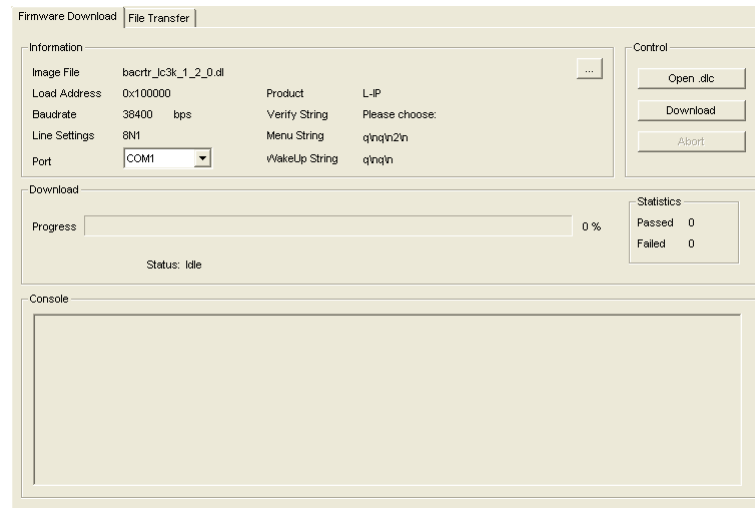

Figure 22: LSU Serial Upgrade Tool in Idle Mode
1. Double click on the *.dlc file that comes with the new firmware package. This should start the LSU Tool and load the firmware image referenced in the dlc file. Please note that the dlc file and the dl file must be stored in the same folder. The start window of the LSU tool is shown in Figure 22.